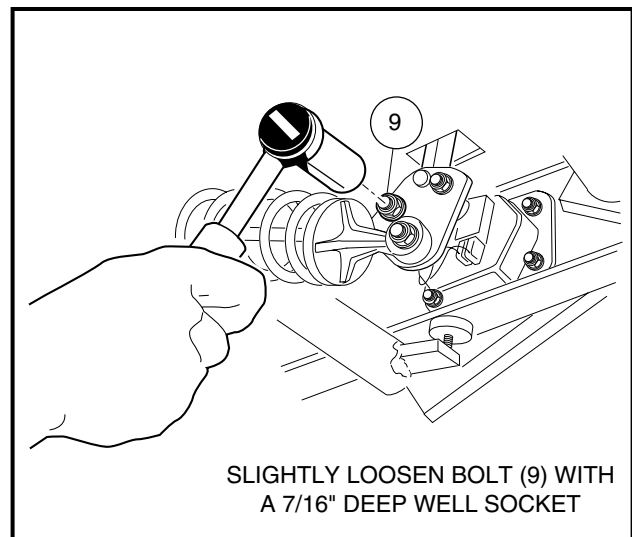

FIGURE 6-16
- 4.4. Using a 7/16" deep well socket, slightly loosen the bolt (9) **(Figure 6-16)** attaching the actuator lever to the adjustment bracket.